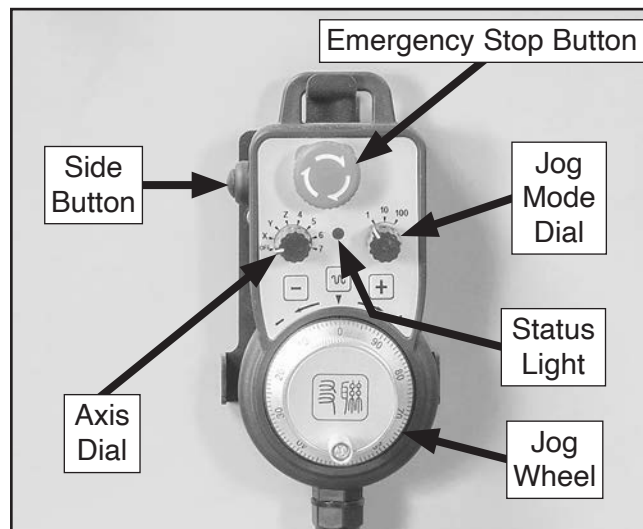

Figure 95. Handwheel controls overview.
- Status light on handwheel will illuminate (see **Figure 95**).
2. On handwheel, twist Emergency Stop button clockwise until it springs out (see **Figure 95**).
4. Turn axis dial to X, and jog mode dial to x100 to test X-axis movement (see **Figure 95**).
7. Turn axis dial to Y, and jog mode dial to x100 to test Y-axis movement (see **Figure 95**).